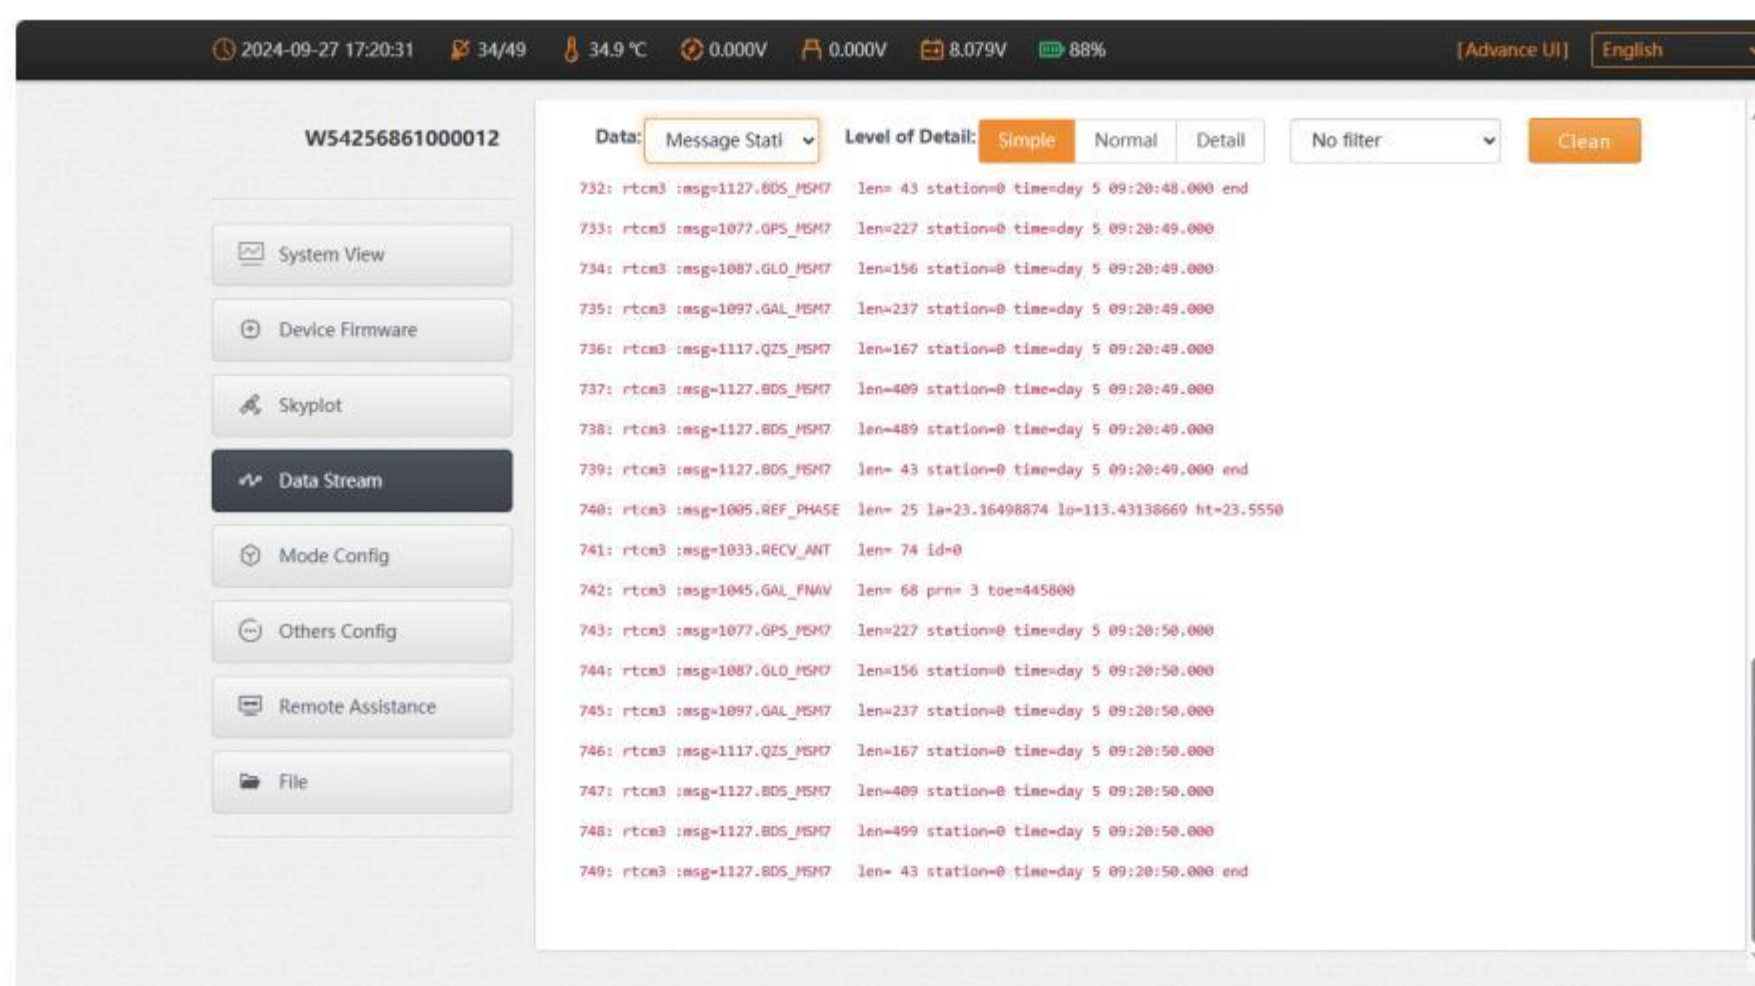

Figure 2.4-5
4. **Message Static:** When the device is in static mode, you can check here whether there is static data output, as shown in Figure 2.4-5: